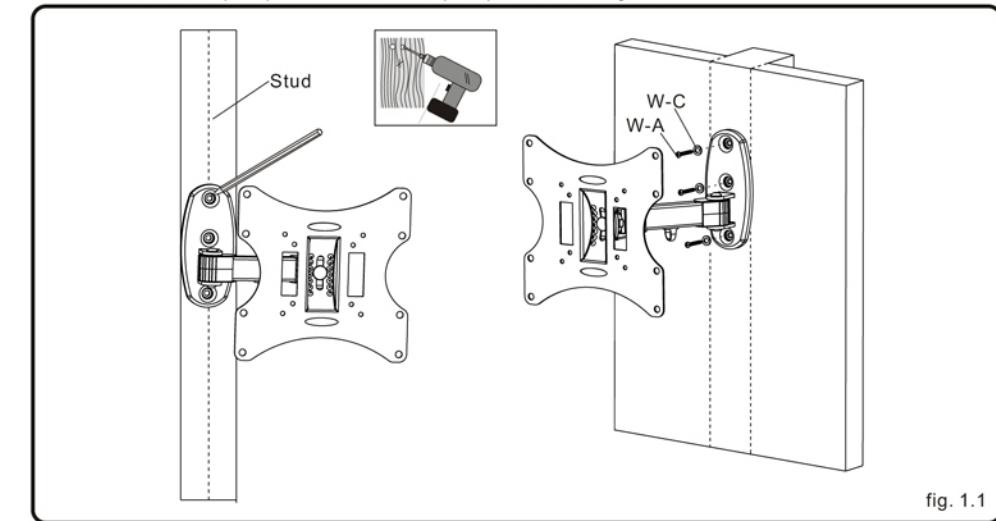

fig. 1.1
- Drill three 1/8" (3mm) dia. Holes 1.2" (30mm) deep. Make sure that the wall plate is level, secure it using three wood screws (W-A) and three washers(W-C) as shown in fig. 1.1.